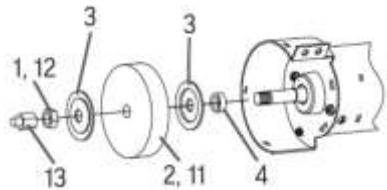

Fig. 6
2. Hold the wheel to prevent the spindle from turning while removing the nut (#1, 12) and shaft nut (#13), if applicable (Fig. 6).
3. Remove the worn wheel (#2, 11) and flanges (#3) (Fig. 6).